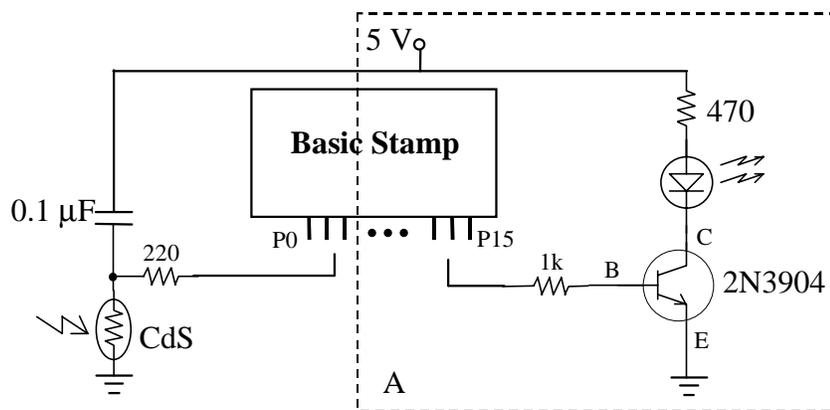

Figure 5 Light-Controlled Switch Using the Basic Stamp
1. Build the part of the circuit in Figure 5 labeled 'A'. Connect the 1k resistor to any of pins P0 through P15 on the Basic Stamp (denoted xx below). Don't forget that you need to supply power and ground to the Basic Stamp.
3. When you have successfully completed step 2, build the rest of the circuit shown in Figure 5. Connect the 220 ohm resistor to another one of the pins P0 through P15 (but different from the pin you chose in step 2, denoted yy below).